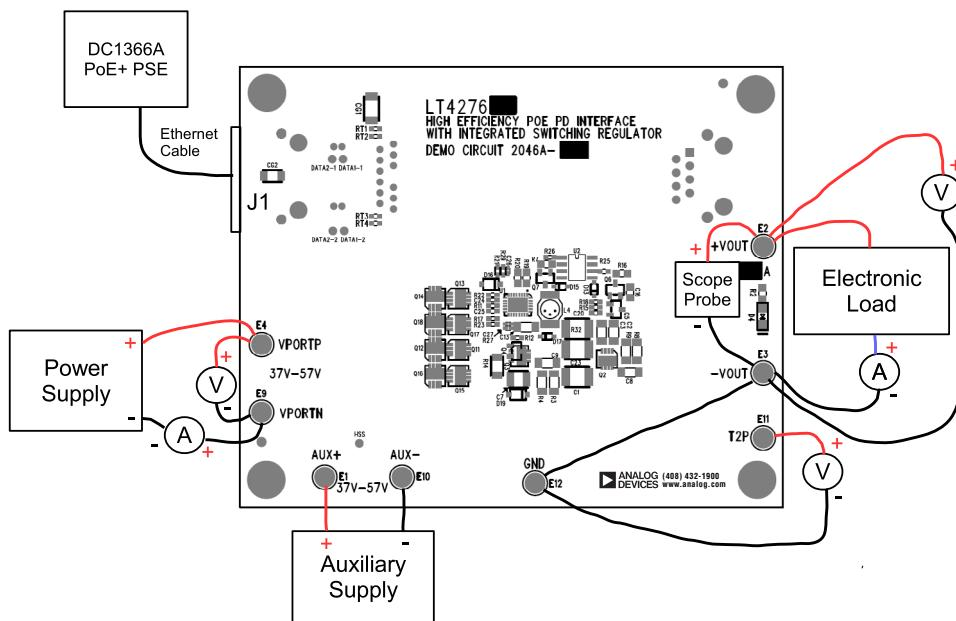

Figure 8. Proper Measurement Equipment Setup
Demonstration circuit 2046A-A is easy to set up to evaluate the performance of the LT4276 in a PoE+ application. Refer to Figure 8 for proper equipment setup and follow the procedure below:
1. Place test equipment (voltmeter, ammeter, power supplies, and electronic load) as shown in Figure 8.
a. Connect a PoE+ capable PSE with a CAT-5 cable to the RJ45 connector, J1. See Figure 8.
b. Or, connect a 37V to 57V capable power supply (power supply in Figure 8) across VPORTP and VPORTN.
c. If evaluating the auxiliary power supply (auxiliary supply in Figure 8), connect a 37V to 57V capable power supply across AUX⁺ to AUX⁻.